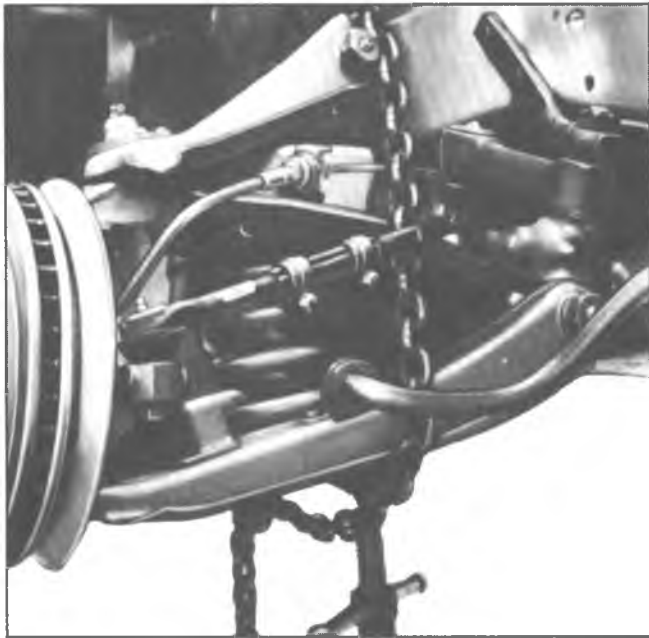

Fig. 29—Removing Inner Pivot Shaft
#### Lower—Removal (Fig. 29)
3. Install a chain over upper arm (Fig. 29). Inboard of stabilizer and outboard of shock absorber as a safety measure.